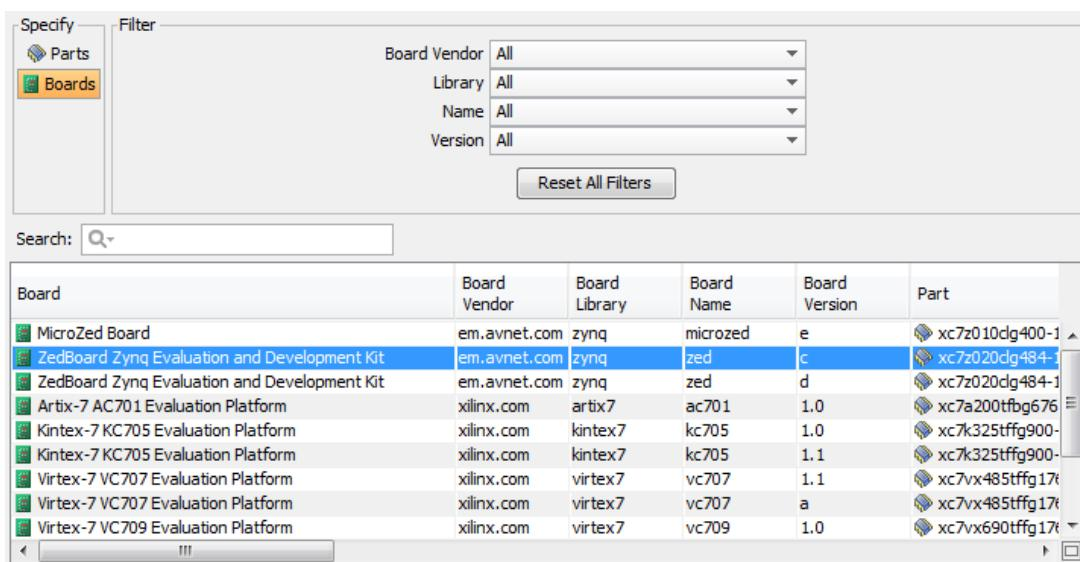

Figure 2.3: Default part dialogue options
- (i) From the *Default Part* dialogue, select **Boards** from the *Specify* box and choose **ZedBoard Zynq Evaluation and Development Kit**, Board Version **c** from the list of boards, as shown in Figure 2.3.